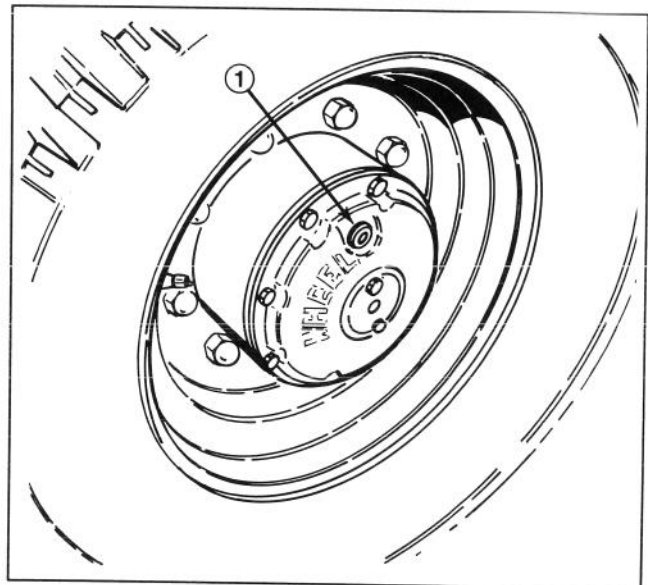

Figure 51
1. To check the oil level, the oil should be at the bottom of the check/drain plug hole (Fig. 51) when the hole is placed in the 3 o'clock or 9 o'clock position. The traction unit must be on level ground when making this check.